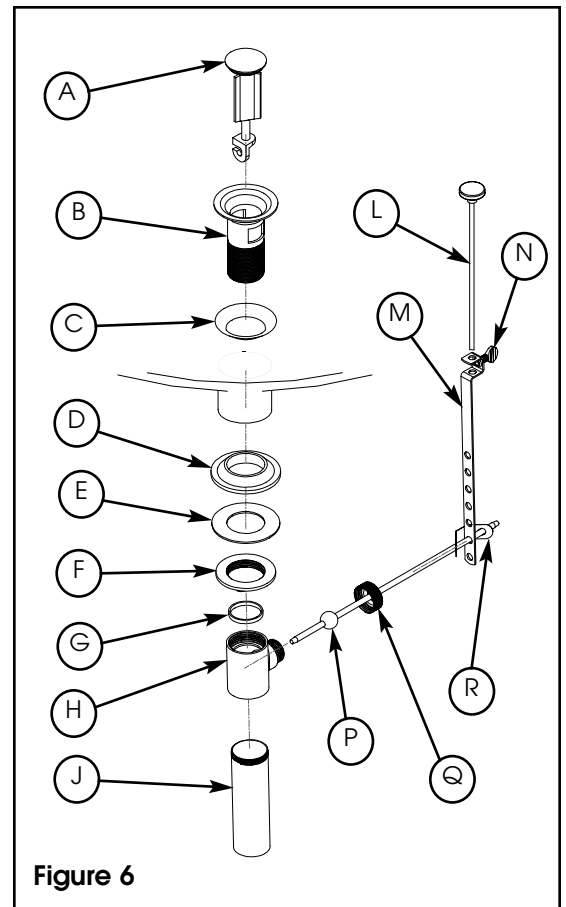

Figure 6
- Place FLANGE (B) and white WASHER (C) through sink drain opening. (Clear silicone may be used in place of white washer.)
- From bottom side of sink, place cone shaped rubber WASHER (D) onto FLANGE (B) and slide up against sink bottom. Note: Cone portion of WASHER (D) to face upward.
- Slide on clear flat WASHER (E) and secure with flange NUT (F).
- Place clear WASHER (G) into drain BODY (H) and tighten to FLANGE (B).
- Apply thread sealant to TAILPIECE (J) and attach to drain BODY (H).
- Attach TAILPIECE (J) to p-trap drain (not included).
- Place drain PLUG (A) into FLANGE (B).
- Insert pop-up ROD (L) through rod opening and secure to STRAP (M), approximately 1" from end of ROD (L), with SCREW (N).
- Insert ball ROD (P) into the drain's rod opening, secure with ball rod NUT (Q).
- Adjust the rise of the plunger and CLIP (R) into place.
- Adjust ball ROD (P) and pop-up ROD (L) so drain will open and close properly. See Figure 6.
- Connect TAILPIECE (J) to waste p-trap (not included).